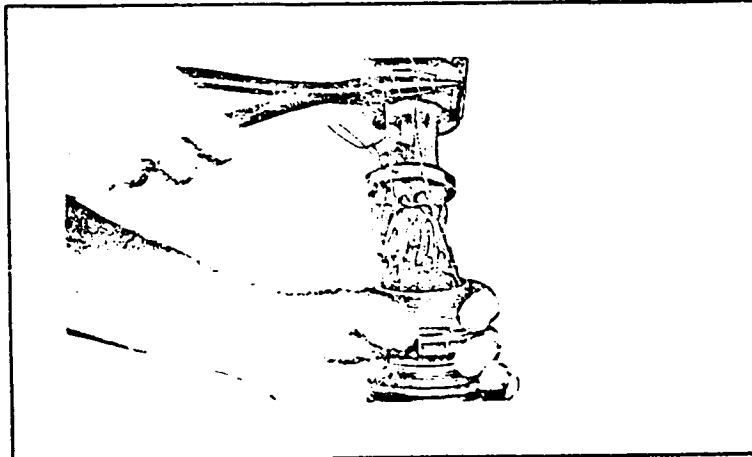

Figure 18
e. Grasp the safety wire with pliers and push the back shell down over the grommet while pulling on the safety wire, figure 18.